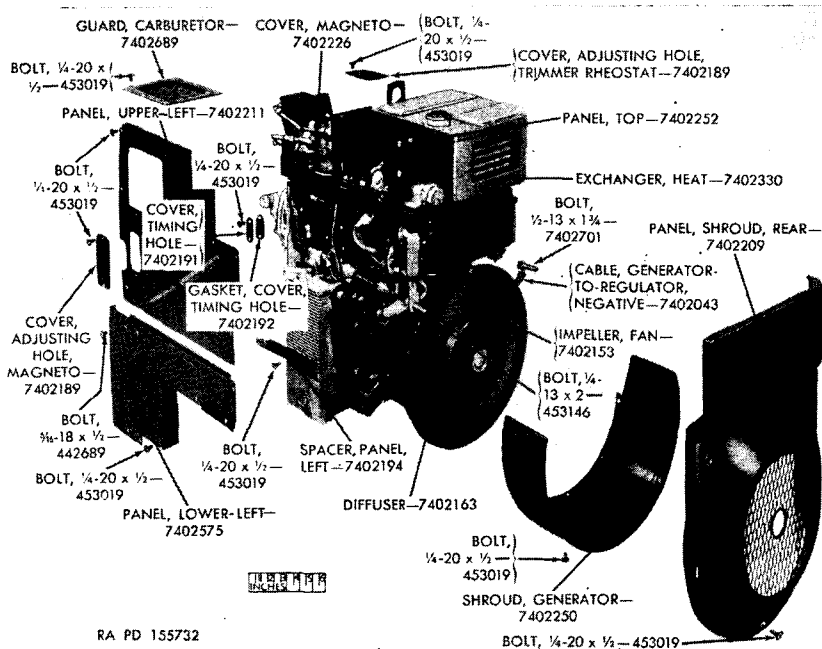

Figure 16. Panels—left-rear exploded view.
- (1) *Cables loose, broken, or burned.* Remove upper-left panel (fig. 16) and check for loose, broken, or burned cables between the positive battery terminal, starter relay, and series field terminal of the generator.
b. REMOVE UPPER-LEFT PANEL (fig. 16). Remove eighteen $\frac{1}{4}$ -20 x $\frac{1}{2}$ bolts and lock washers and remove upper-left panel.
e. REMOVE LOWER-LEFT PANEL (fig. 16). Remove six $\frac{1}{4}$ -20 x $\frac{1}{2}$ and six $\frac{5}{16}$ -18 x $\frac{1}{2}$ bolts and lock washers securing engine lower-left panel to crankcase, panel spacer, and rear shroud panel.
c. Remove remaining two $\frac{1}{4}$ -20 x $\frac{1}{2}$ bolts and lock washers holding magneto cover to baffle support (fig. 16) and lifting eye and remove magneto cover, spark plug cover and tubes.
- a. Remove one $\frac{1}{4}$ -20 x $\frac{1}{2}$ bolt and lock washer securing top panel to rear shroud panel and remove three $\frac{1}{4}$ -20 x $\frac{1}{2}$ bolts and lock washers securing top panel to baffle support. Remove one $\frac{1}{4}$ -20 x $6\frac{1}{4}$ bolt and lock washer securing top panel to baffle support and lift top panel wiring harness and control switch receptacle away from engine (figs. 16, 22, and 109).